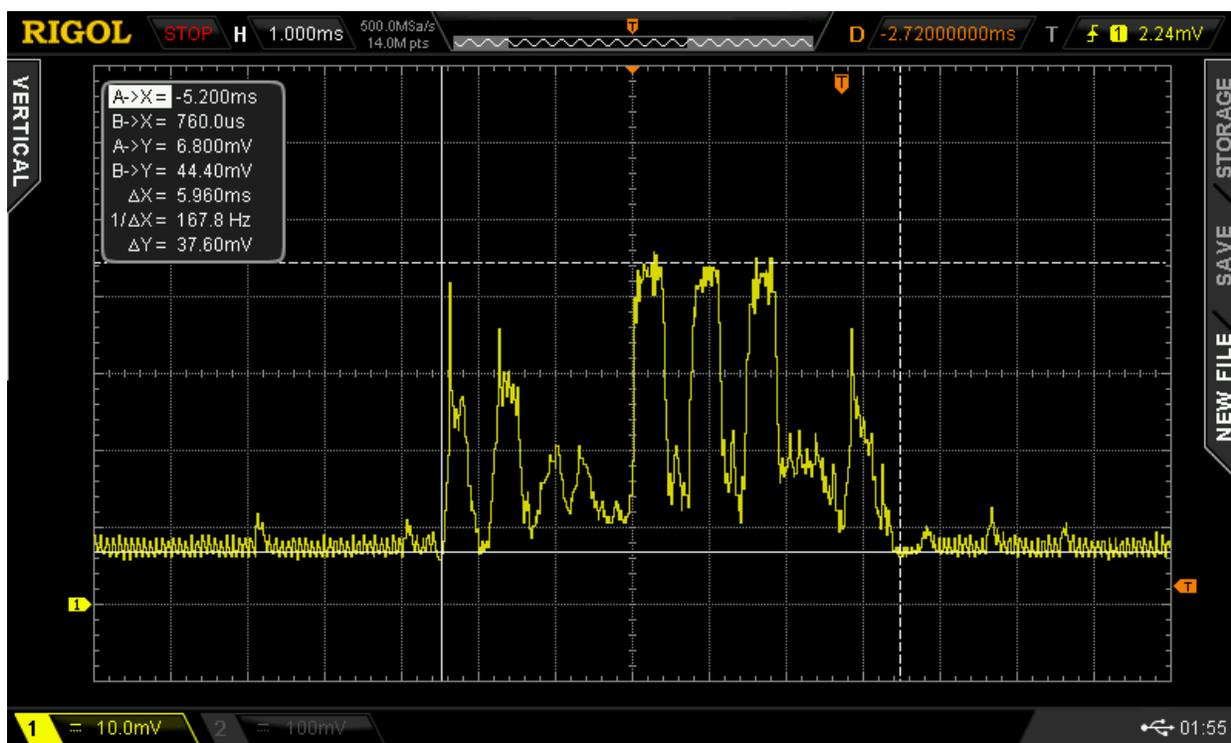

Figure 5 - Approximate Power Profile Measurement
- Figure 5 - Approximate Power Profile Measurement
- 3) The oscilloscope will show a periodic beacon profile (3 pulses for 3 channels) during the advertising phase followed by the retention phase without beacons. See Figure 5.